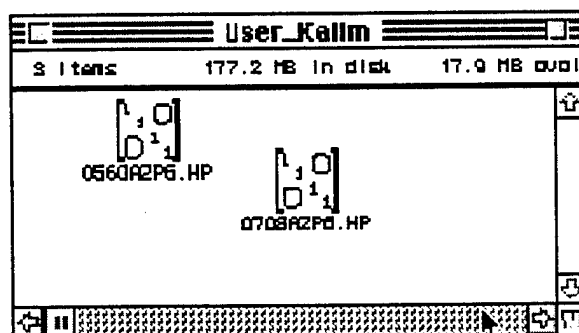

Figure 3.15: Newly created files in the User\_Kalim folder
7. Now switch to the finder. In whatever folder you chose for decompression (default is the AIRBASE folder), you will find two newly created files (if you are in "View by Icon" mode, the folder should look similar to Figure 3.15). We have fooled these files into thinking they were generated by MATLAB, so double-clicking on either of them has the effect of launching MATLAB and loading the data into MATLAB's internal work area. We will discuss MATLAB shortly (in Chapter 4) and you will perform some basic manipulations with these files, so *don't forget where you put them!*